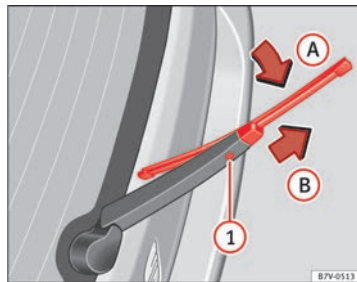

Fig. 161 Changing the rear wiper blade.
- Pull the wiper blade out of its mounting on the wiper arm ⇒ fig. 161 (arrow A).
- Hold down the release button ① while gently pulling the blade in the direction of the arrow B. This may require some strength. ▶